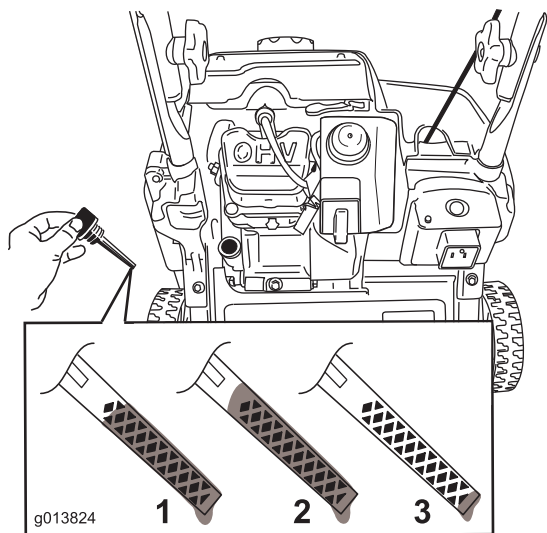

Figure 14
8. To determine the proper oil level on the dipstick, refer to Figure 14.
Note: Fill the engine crankcase with oil until the dipstick indicates that the engine-oil level is correct as shown in Figure 14. If you overfill the engine with oil, remove the excess oil from the drain plug into an oil-drain pan.